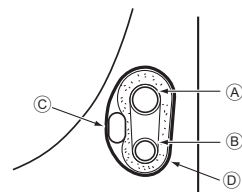

Fig. 4-4
4.4.1. Storing in the piping space of the unit (Fig. 4-4)